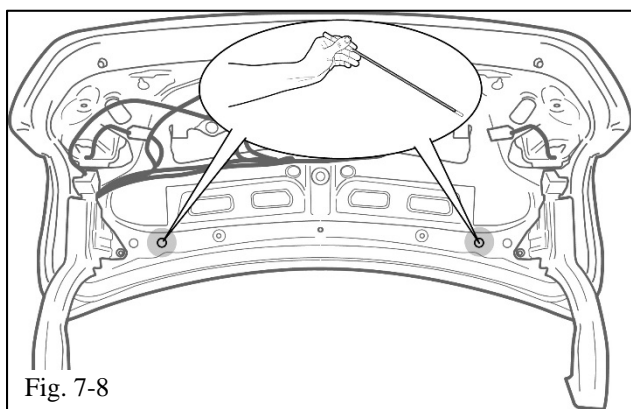

Fig. 7-8
- (l) Open the deck lid and use a magnet with a flexible shaft to remove any remaining metal chips from the drilling process (Fig. 7-8).